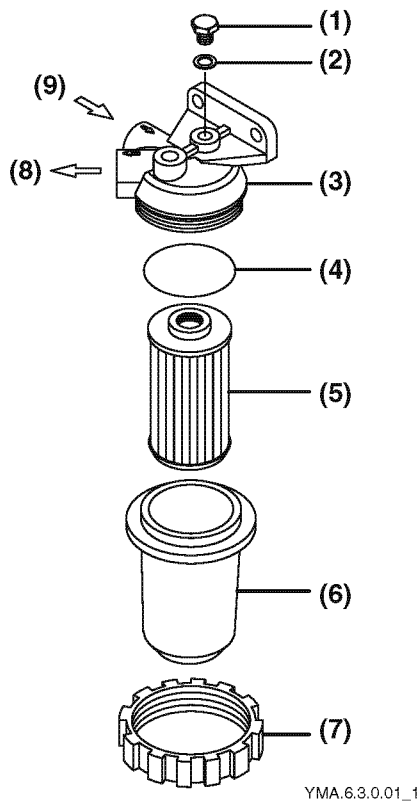

Figure 6-13
The fuel filter is installed between the feed pump and injection pump and removes dirt and impurities from the fuel. The fuel filter incorporates a replaceable filter paper element (Figure 6-13, (5)). Fuel from the fuel tank enters the outside of the element and passes through the element under its own pressure.
As it passes through the element, the dirt and impurities in the fuel are filtered out, allowing only clean fuel to enter the interior of the element. The fuel exits from the outlet at the top center of the filter and is sent to the fuel injection pump (Figure 6-13, (8)).
Loosen the screw (Figure 6-13, (1)) installed on the fuel filter body to bleed air from the fuel system.